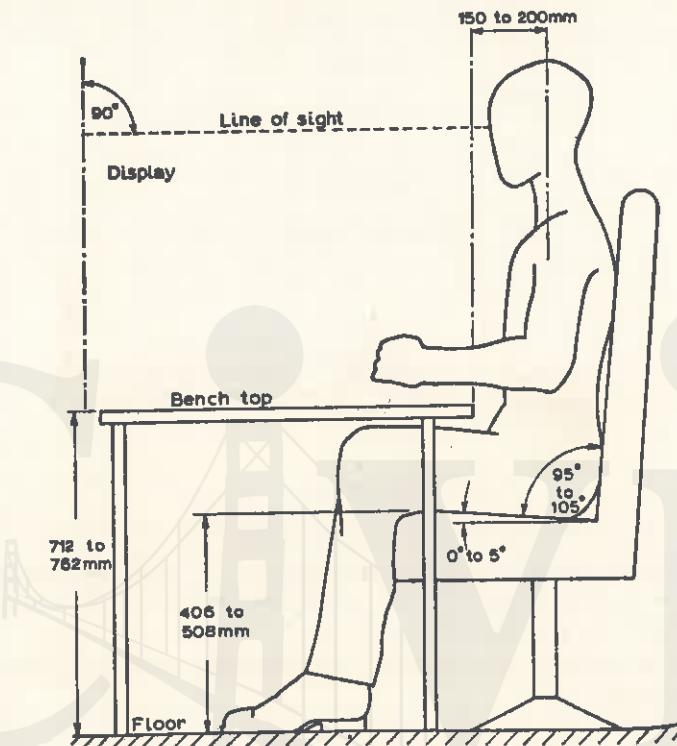

Fig. 9.22. Bench and seat heights
- Fig. 9.22 shows the situation with respect to bench heights and seat heights. In this view, the seat should be adjustable for height and rake. It is not usually convenient to have adjustable benches or work tops and the value of 712mm to 762mm is probably the best compromise dimension.